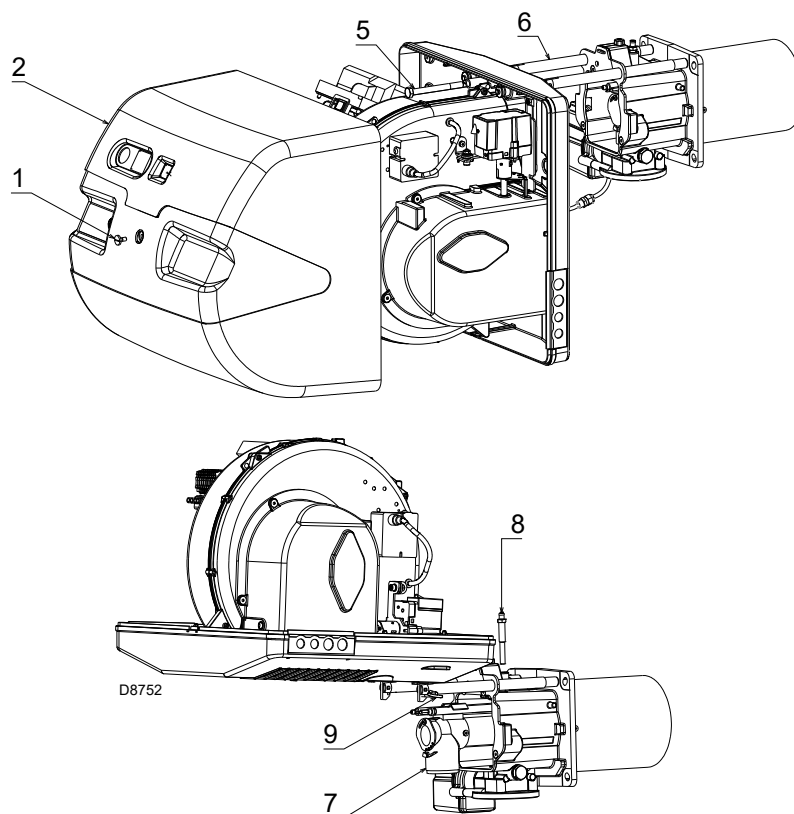

Fig. 39
Make sure that the gas outlet holes for the start-up, on the combustion head distributor, are free of dirt or rust deposits. If in doubt, disassemble the elbow (Fig. 39 at page 52).
- Loosen the screws 1)(Fig. 39) and remove the cover 2).
- Remove the split pin 9)(Fig. 39) and push the burner until it is approx. 100 mm from the pipe coupling.